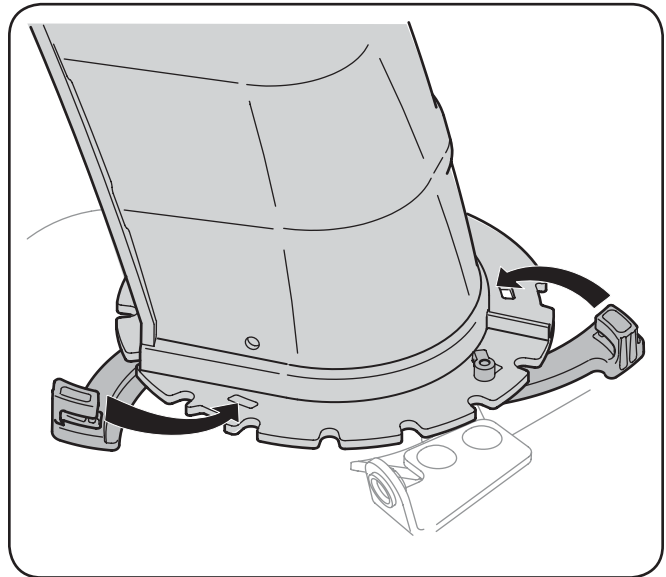

Figure 3-20
2. Close the flange keepers to secure the chute assembly to the chute base. The flange keepers will click into place when properly secure. See Fig. 3-20.